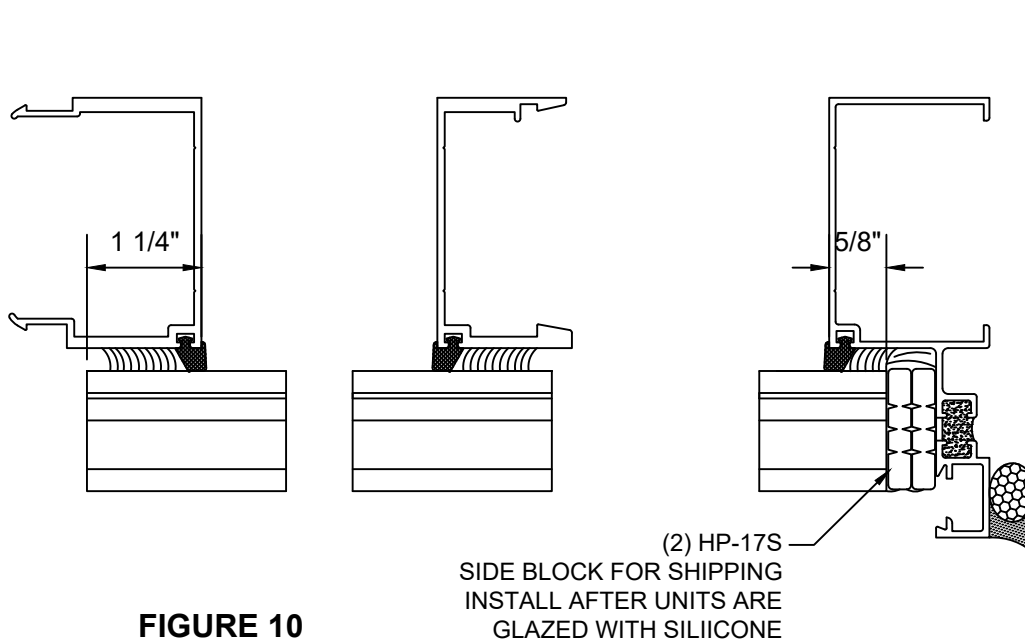
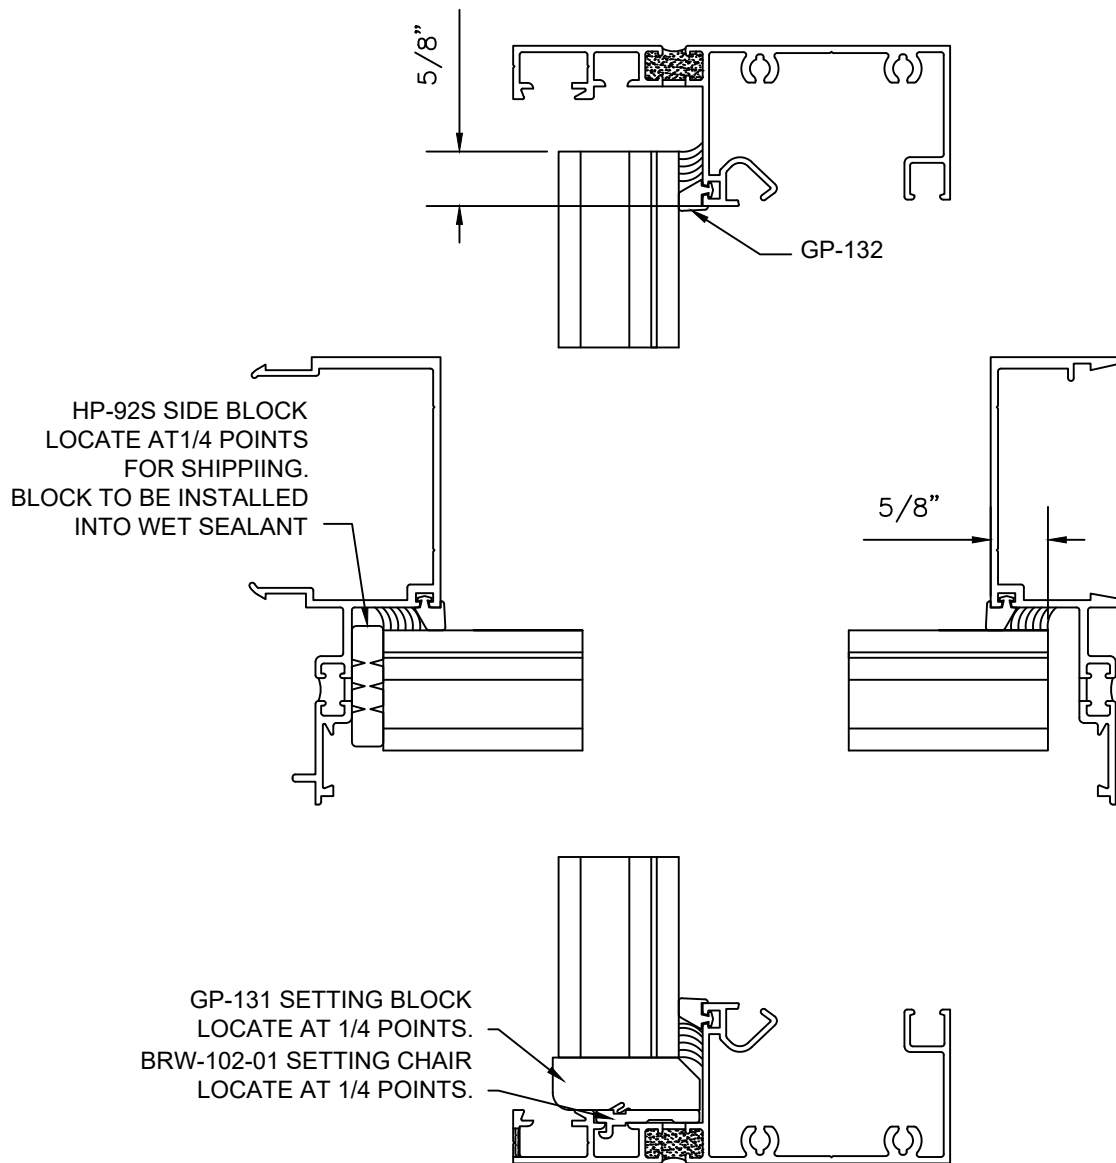

FIGURE 10
FIGURE 11
- 3.3 Structural sealant may be applied either prior to installing glass (with back bead) or after glass has been set. Sealant must be applied from spacer gasket and up edge of glass as shown in FIGURE 10 and FIGURE 11, page 12. Units may be glazed using either Dowsil 795 or Dowsil 983 silicone.
- 3.4 Setting chair BRW-102-01 and Setting block GP-131 will be located at sill member at 1/4 points of glass. See FIGURE 11, page 12. Side blocks must also be used at jamb units and on at least one edge of intermediate units. HP-92S blocks will be used on jamb members and a HP-17S on edges of intermediate verticals.